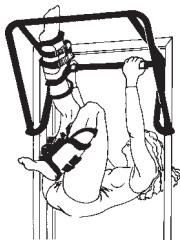

Figure 8
Mounting (See Figure 8):
- Unhook one boot and place that foot against the bottom of the upper bar. See Figure 8. Shift your weight to the unhooked foot and unhook the second boot.